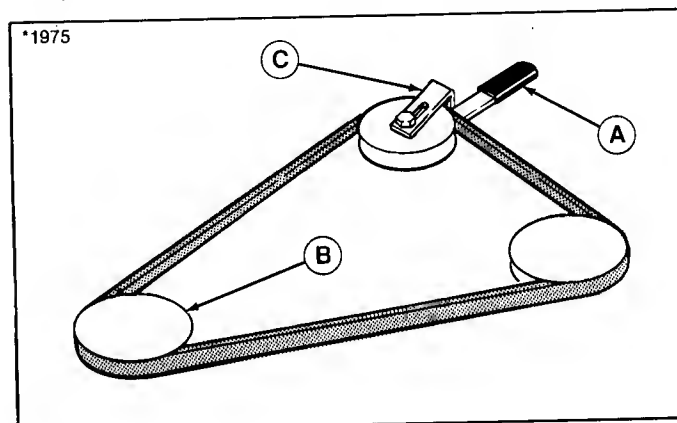

Figure 26.
2. If mower is not removed, pull idler pulley arm (A, figure 26) towards you to relieve belt tension. Drop belt from electric clutch pulley (B).
3. Loosen nut and lockwasher securing bracket belt stop (C).
7. Index the bracket belt stop (C, figure 26) up against idler pulley arm (A) as shown in figure 26. Make sure there is a 1/8" gap between belt stop and pulley.